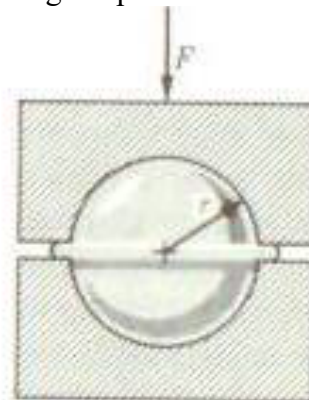

Fig. 2. Ball forging
- Ball bearing balls are formed cold from wire stock in a closed-die (see Fig. 2). Consider a ball of 0.2 in. in diameter made from wire having an initial diameter of 0.15 in. The variation in length of the wire slug sheared from the rod is  $\pm 3\%$ . This gives rise to the variation in flash. The slug length is adjusted so that at its maximum length, the cavity is just filled and maximum flash thickness is 0.005 in.